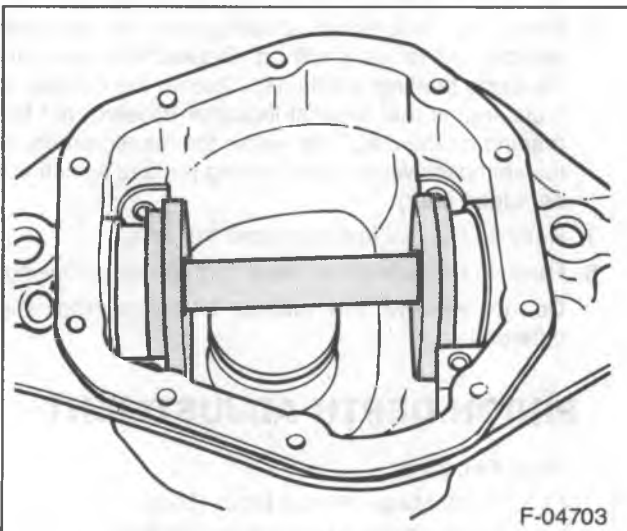

Figure 24—Arbor and Discs
4. Install the arbor and discs into the axle housing (figure 24).